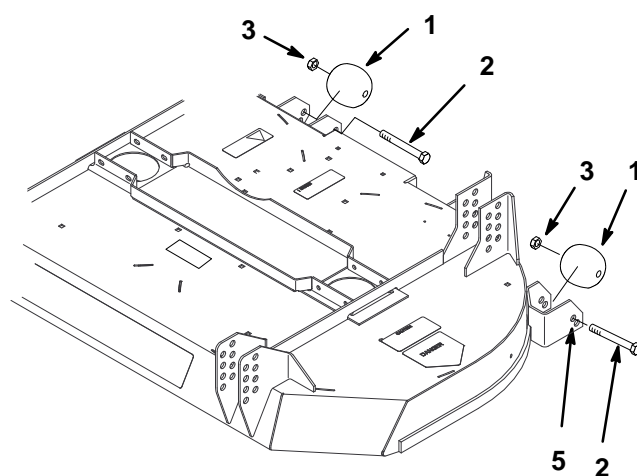

Figure 16
2. Remove the locknut and bolt to change hole location (Fig. 16).
3. Select the proper hole position for the height-of-cut to be used (Fig. 16).